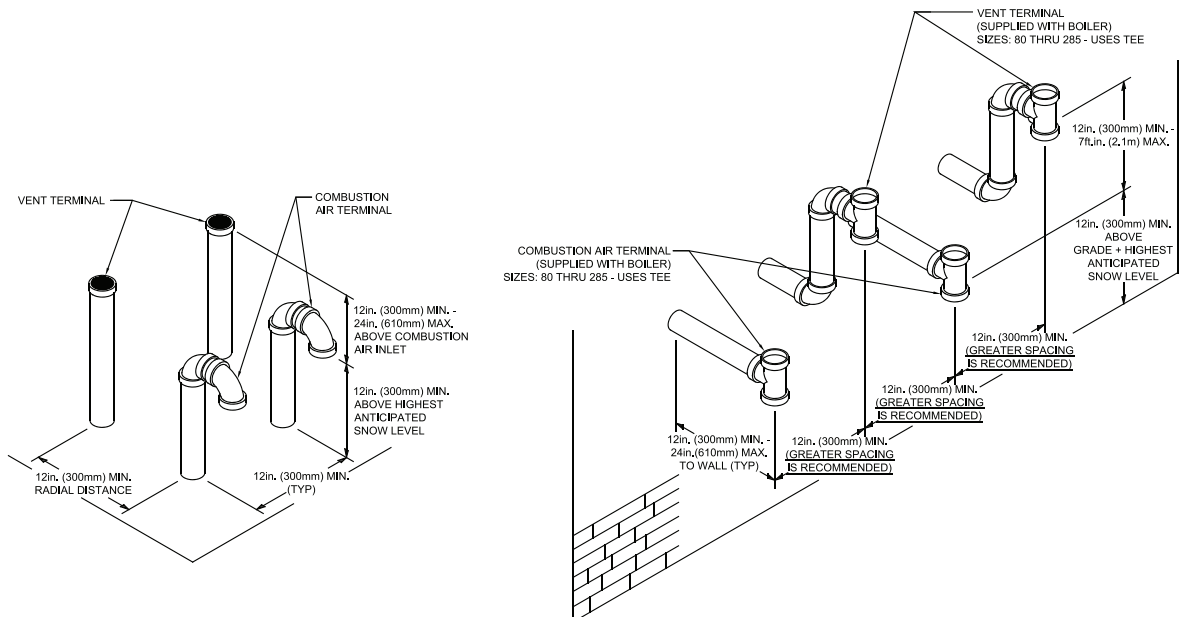

Figure 18: Multiple Boiler Direct Vent Termination
- a. Multiple boiler vent terminations are shown in Figure 18.
- a. Multiple boiler combustion air terminations are shown in Figure 18.